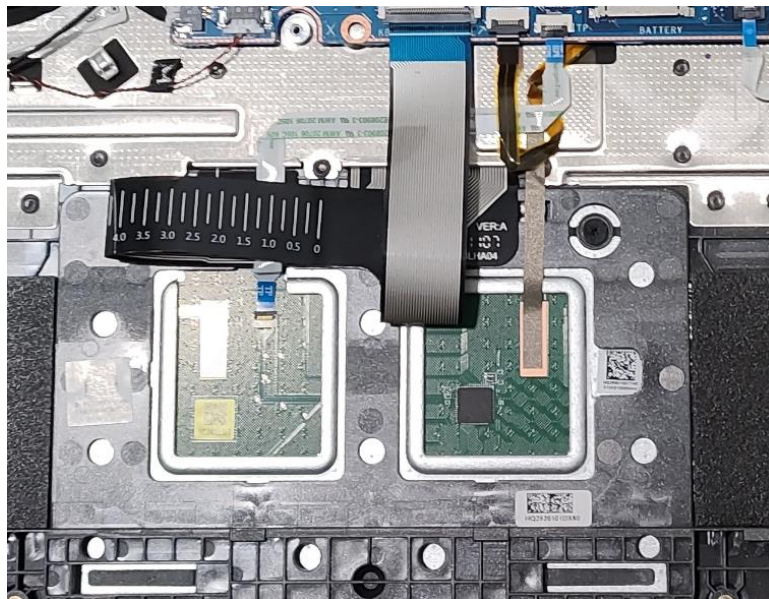

Figure 3-84. Replacing the Touchpad Module
5. Connect the touchpad FFC to the touchpad module and mainboard connectors. Then press the middle portion of the FFC to ensure its underneath adhesive is properly attached to the top assembly (Figure 3-84).